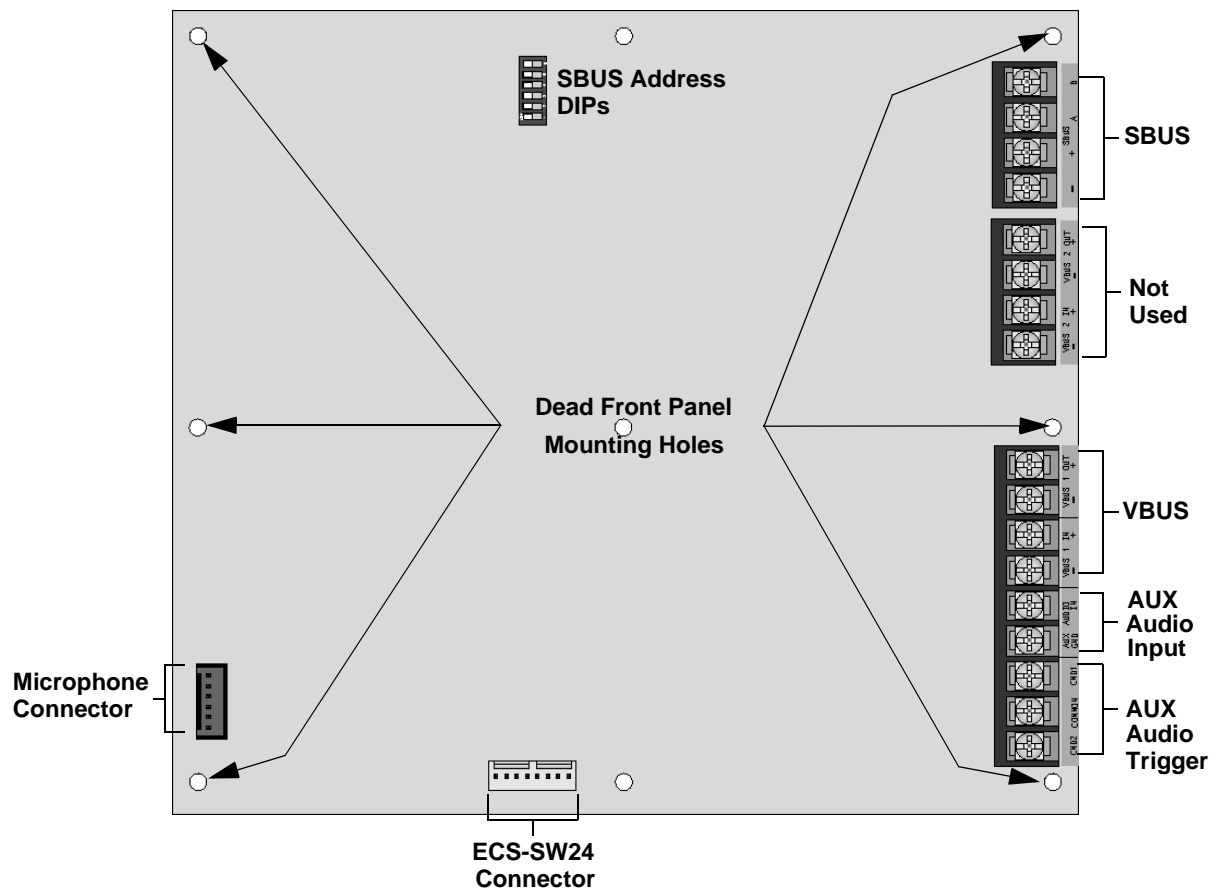

Figure 4-78 Back View of ECS-RVM
The following steps explain how to connect the batteries (refer to Figure 4-78):
3. Disconnect any devices connected to the VBUS. See Figure 4-78.